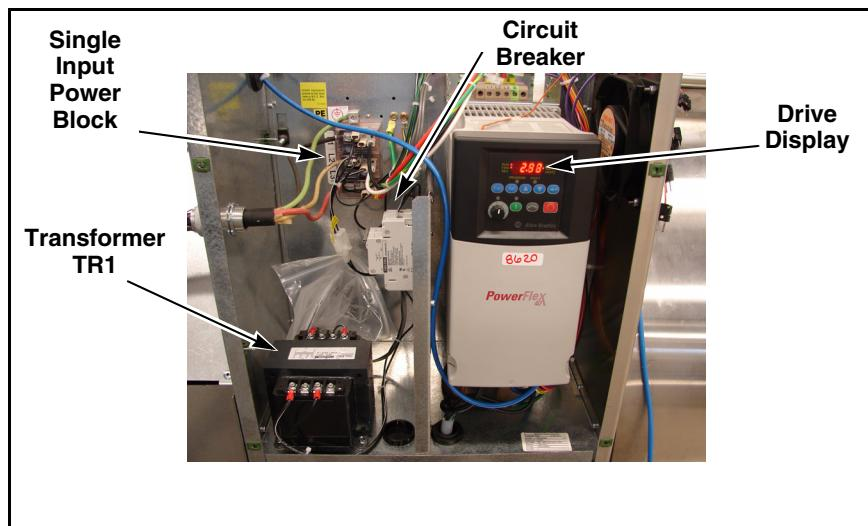

Figure 2
The drive is mounted in a box on the left side of the machine. Wiring diagrams and extra fuses are located inside of the drive box. The single input power block is located inside of the drive box. Electric heat machines have a single input power block. Refer to *Figure 2*.
4. For R-voltage (380-480 Volt) models only, make sure transformer TR1 in the drive box is connected properly for the applied voltage. Refer to the sticker on top of the transformer for connection information. Also make sure the transformer circuit breaker is set. Refer to *Figure 2*.
5. Check the drive display for faults. Refer to supplement F232120 for drive fault information. Refer to *Figure 2*.